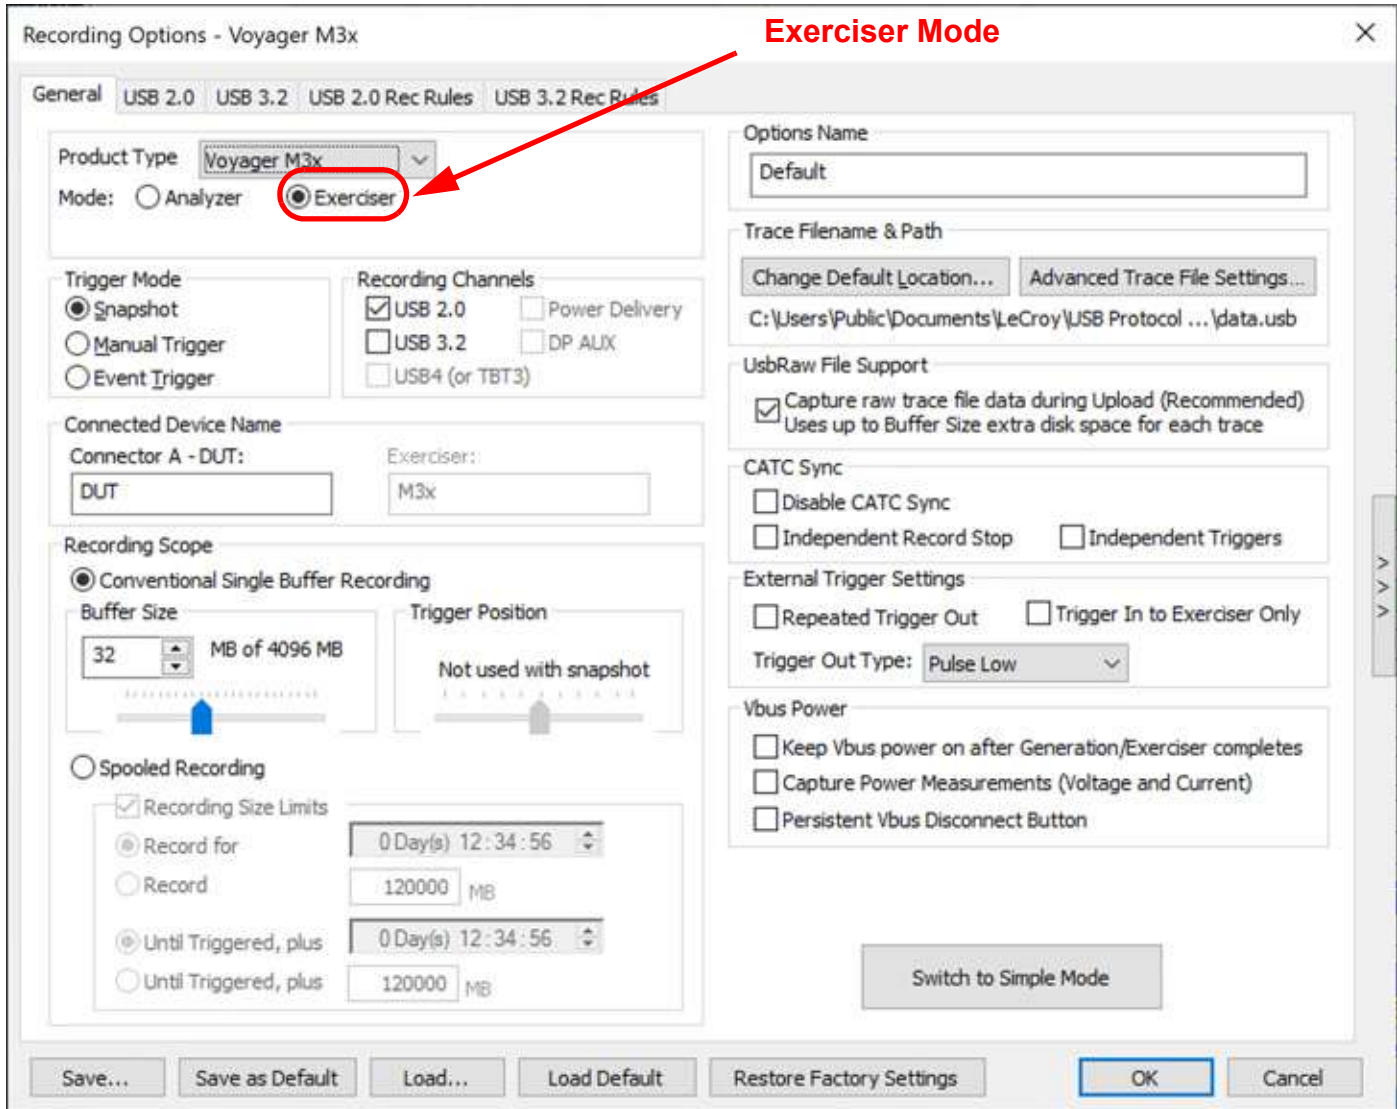

Figure 5.20: M3x: Advanced Mode -> Recording Options Exerciser Mode
In Advanced Mode, the Recording Options dialog box for the Voyager M3x (Exerciser Mode) is shown below with USB2.0, USB3.2, USB 2.0 Rec Rules: CHO and USB3.2 (SS) Rec Rules tabs see Figure 5.20.